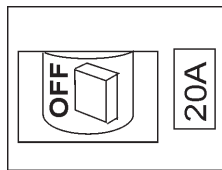

Figure 9. Main Breaker (OFF Position)
2. **NEVER start** the engine with the **main circuit breaker** in the "ON" position. Place the main circuit breaker (Figure 9) in the **OFF** position.
- Place the **main circuit breaker** (Figure 9) in the **OFF** position.